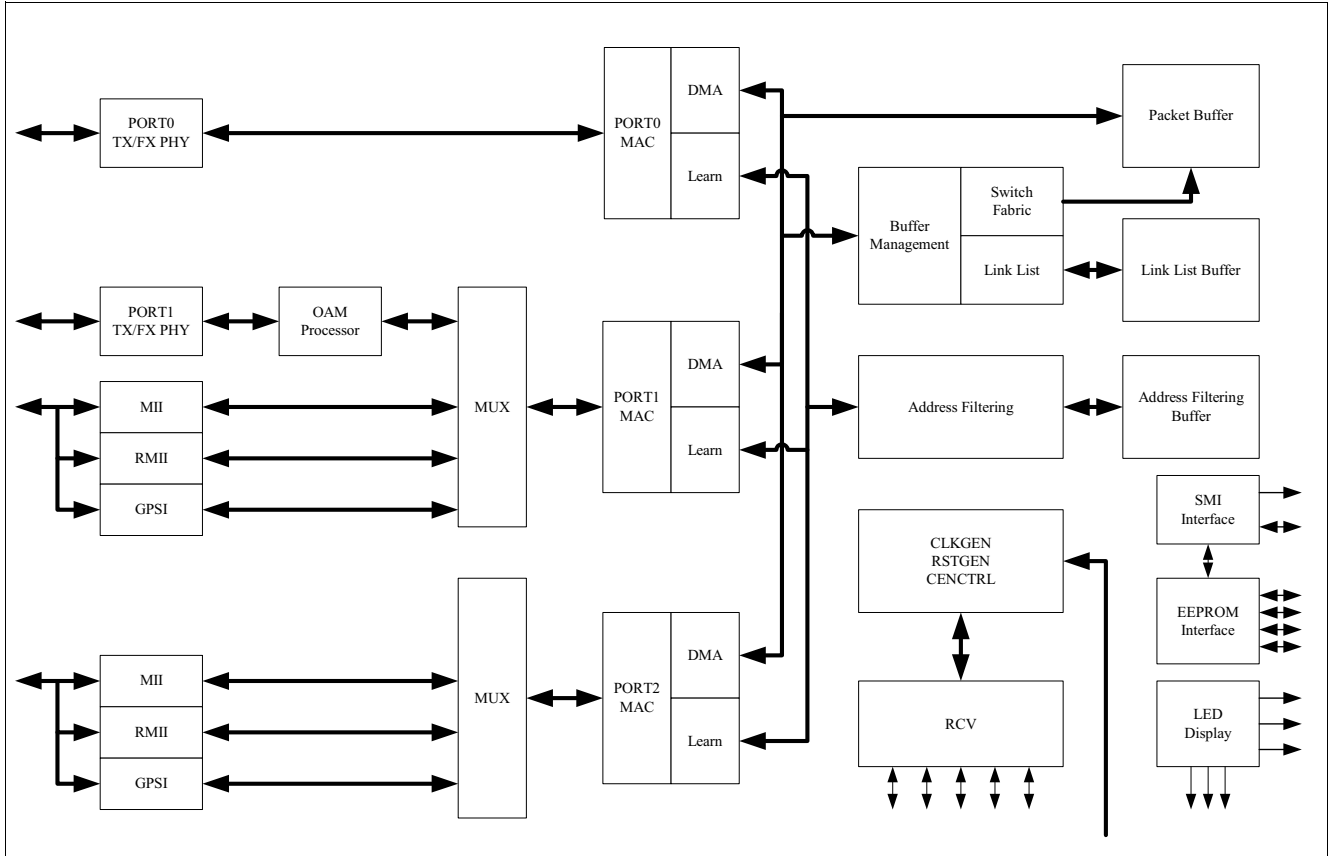

Figure 1 ADM6993F/FX Block Diagram
- Figure 1 ADM6993F/FX Block Diagram 9